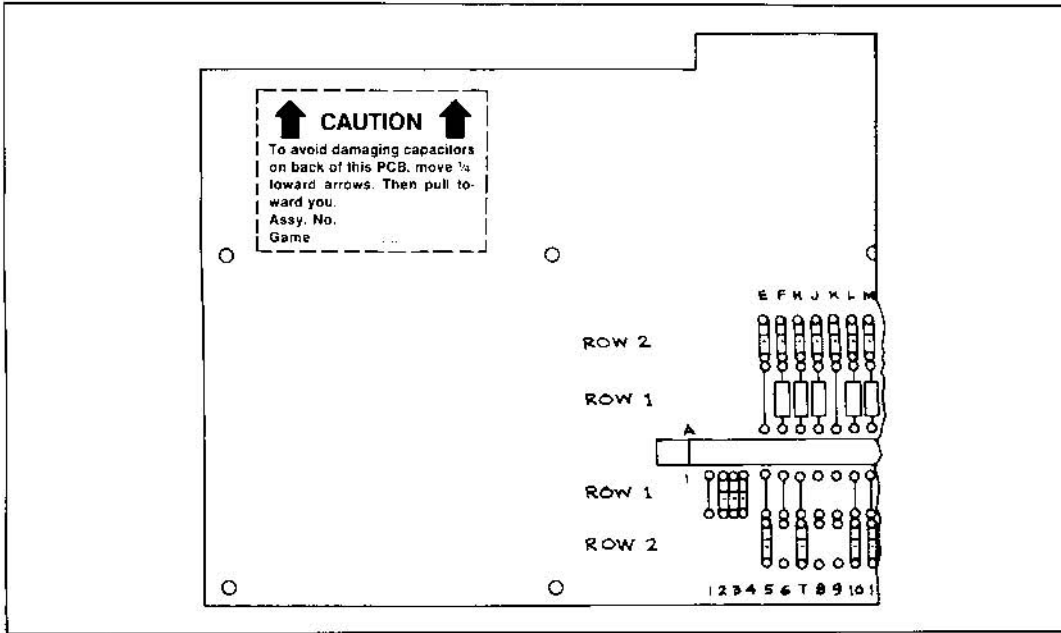

Figure 1-3 Caution Label on Game PCB
2. Locate the radio frequency (RF) shield assembly immediately inside the cabinet on the right. (It is an aluminum box with small holes.) On one end of the box is a printed circuit board with an edge connector coming from the edge of the board.
**IMPORTANT:** To prevent damage to the capacitors on the rear side of the PCB, move the board about ¼-inch towards the edge connector (same direction as the two arrows on the small white label). Then pull the RF board out toward yourself. Never yank the RF board straight off of the metal box. (See Figure 1-3 for caution label identification.)